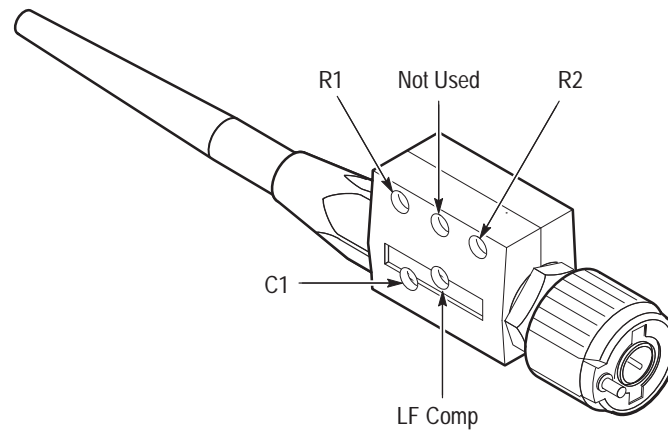

Figure 5–9: Locations of P6139A probe adjustments
- Locate the various adjustments in Figure 5–9.
- See Figure 5–10 to see the areas on the front corner that the various adjustments affect.